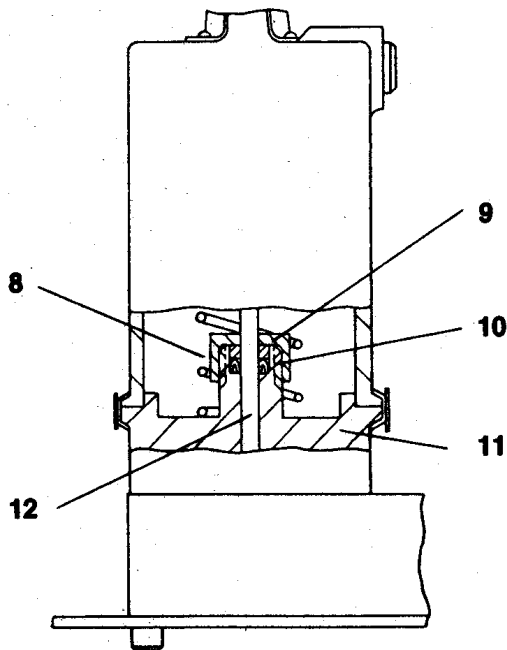

Figure 3
Damaged U-cups, P/N 113081. Refer to Figure 3.
1. Unscrew Packing Nut (8) as shown in Fig. 3. (Use 15/16 box open end wrench.)
2. Remove Bearing (9). CAUTION—do not damage inside diameter of bearing.
3. Remove U-cups (10) as shown in Fig. 3.